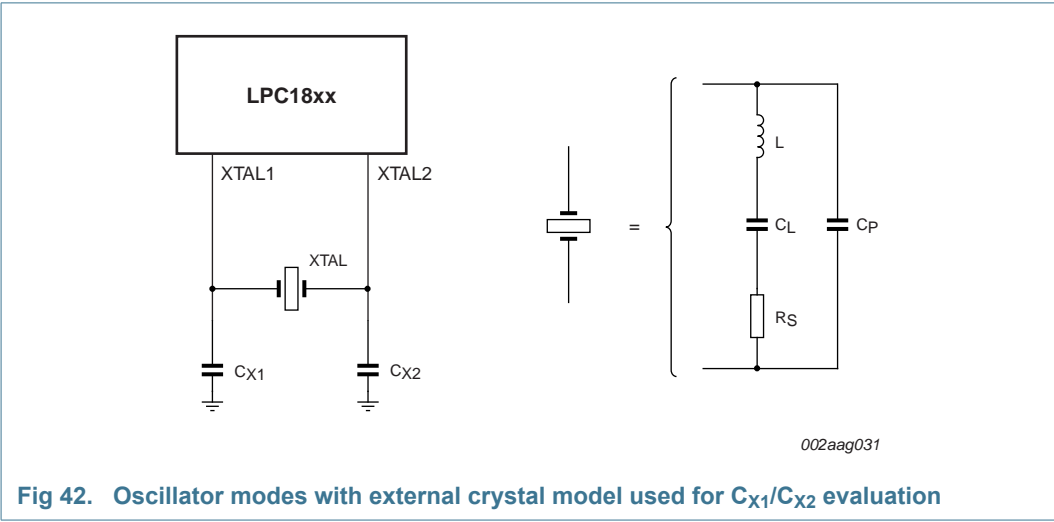

Fig 42. Oscillator modes with external crystal model used for C_{X1}/C_{X2} evaluation
- External components and models used in oscillation mode are shown in Figure 42, and in Table 38 and Table 39. Since the feedback resistance is integrated on chip, only a crystal and the capacitances C_{X1} and C_{X2} need to be connected externally in case of fundamental mode oscillation (L , CL and RS represent the fundamental frequency). Capacitance C_P in Figure 42 represents the parallel package capacitance and must not be larger than 7 pF. Parameters FC , CL , RS and CP are supplied by the crystal manufacturer.